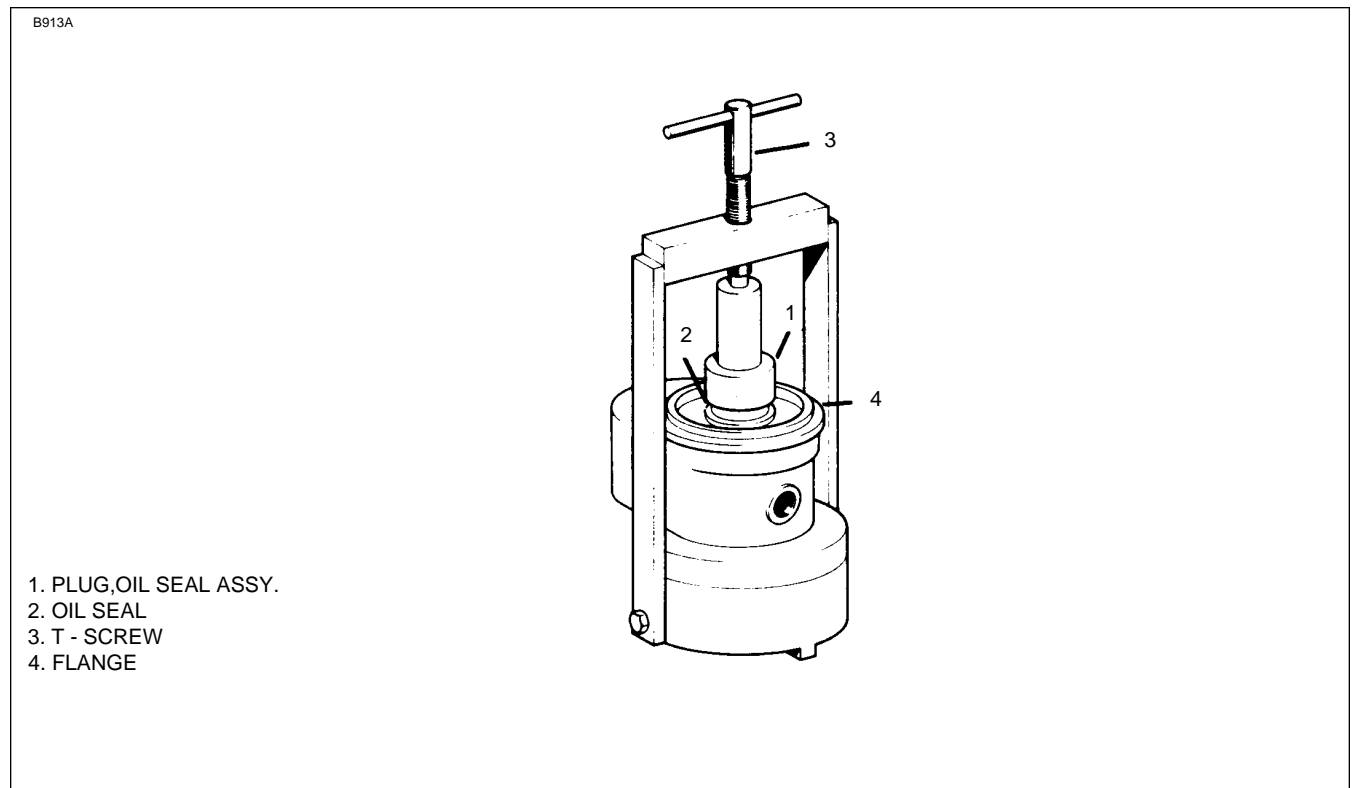

Figure 8-12. Position of magneto on T-100 and Oil Seal Installation
- j. Reverse the magneto on the T-100 assembly and timing tool so the flange of the magneto is facing up. (Refer to Figure 8-12.)